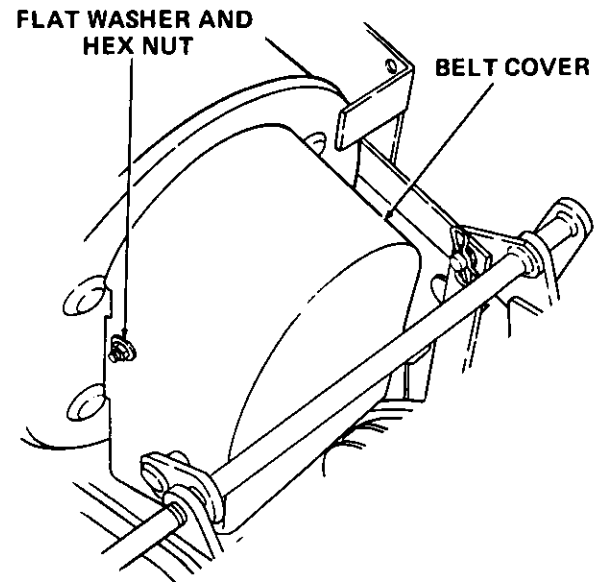

Figure 28
6. Reinstall belt cover using flat washers and hex nuts removed in Section II, step 8. On each side of cover, one flat washer is positioned inside cover and one flat washer is positioned outside cover. Refer to Figure 28.